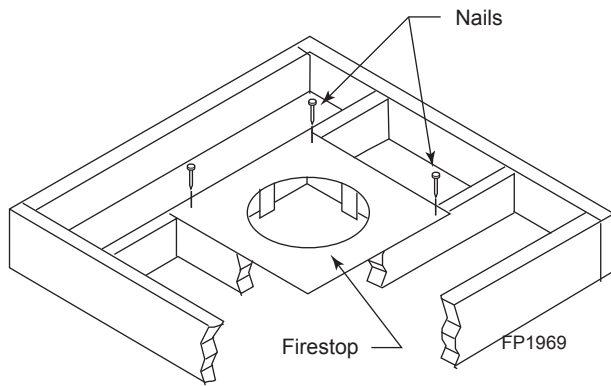
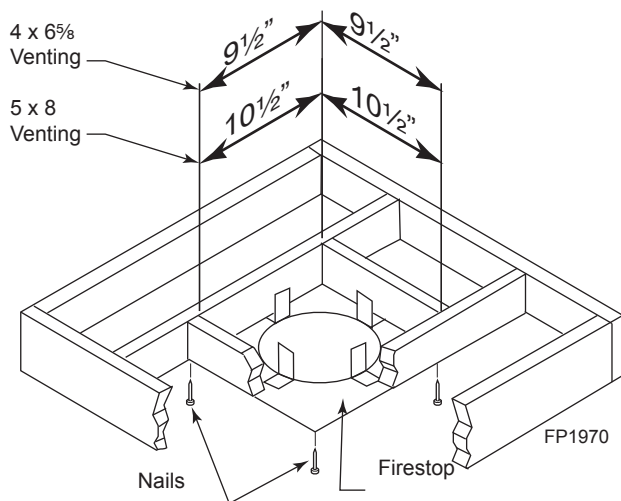

Figure 33 -
Figure 34 -
1. Cut a 10½" (267 mm) square hole in the ceiling using the locating hole as a center point. The opening should be framed to 10½" x 10½" (267 x 267 mm) inside dimensions as shown in Figure 34 using framing lumber the same size as the ceiling joist. If the area above the ceiling is an insulated ceiling or a room, nail firestop from the top side. This prevents loose insulation from falling into the required clearance space. Figure 33. Otherwise, install firestop below the framed hole. The firestop should be installed with no less than three nails per side. Figure 34